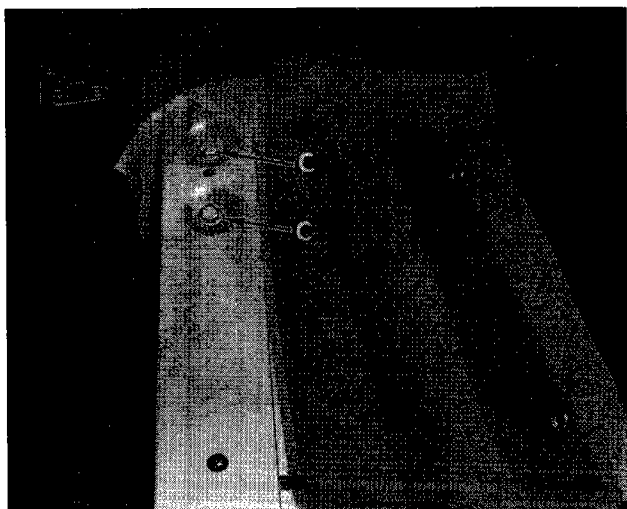

Fig. 5. Seat well mounting points
- two each side of the body in line with the rear end of the gearbox cover (C) (Fig. 5);